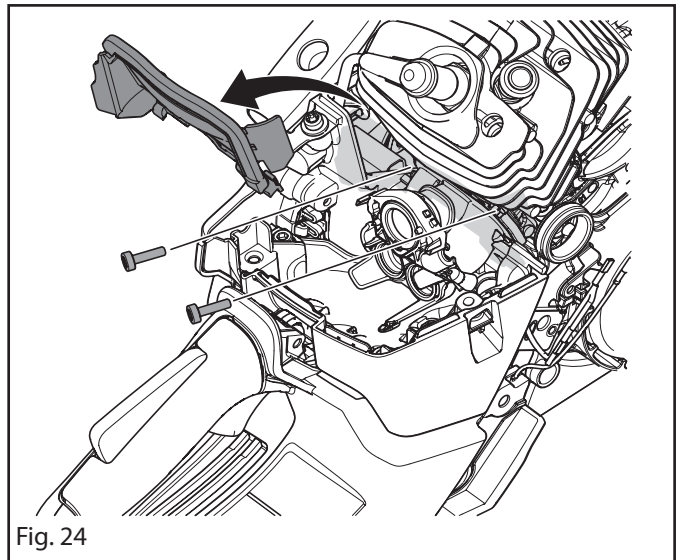

Fig. 24
1. Remove the two upper screws on the manifold. See figure 24.
2. Remove the partition wall by pulling it upwards. See figure 24.